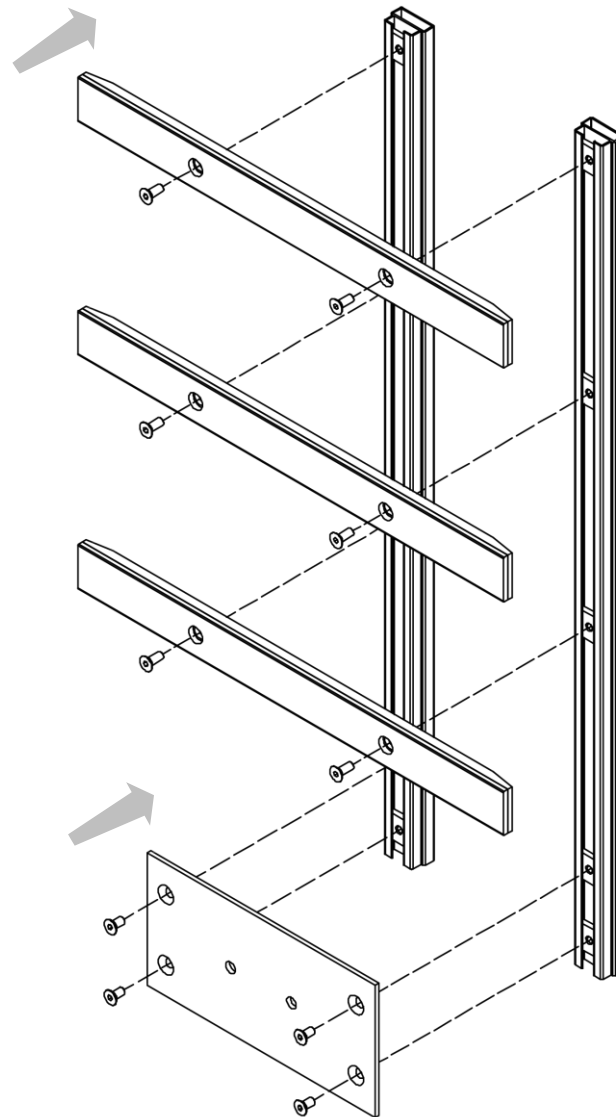

Figure 41
4. Use *Figure 41* as a guide.